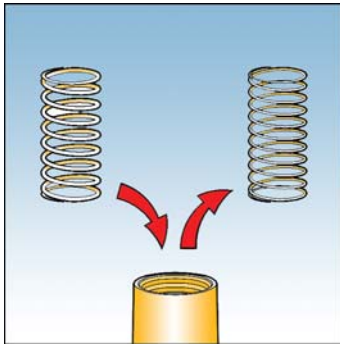

Fig. 10
4. Remove spring and replace with new one. See Fig. 10.